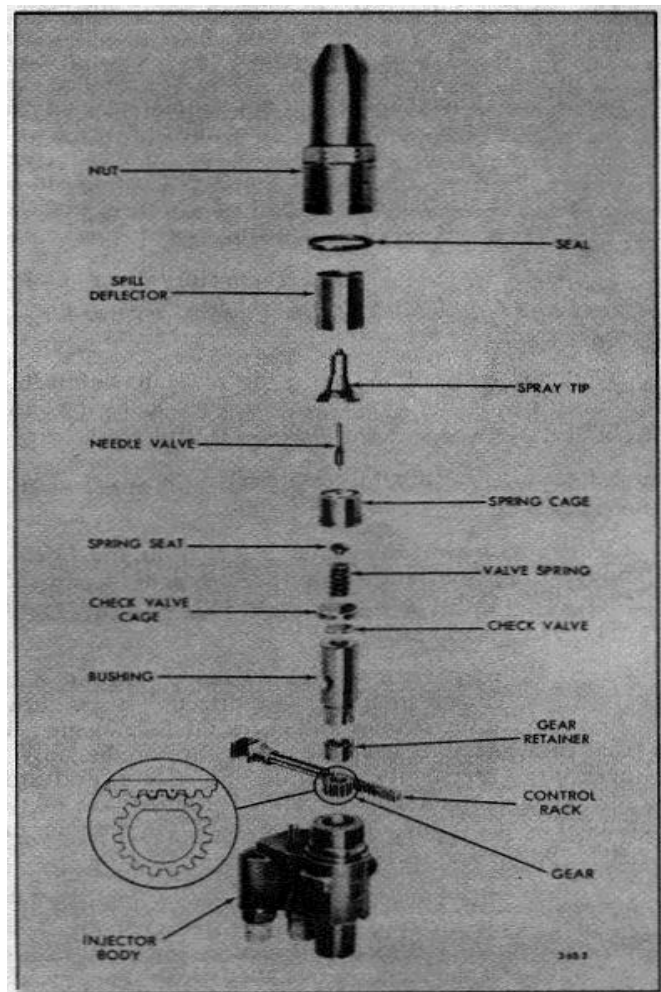

Fig. 36. Injector Rack, Gear, Spray Tip and Valve Assembly Details and Relative Location of Parts
6. Refer to Fig. 36 and remove the spill deflector. Then lift the bushing straight out of the injector body.